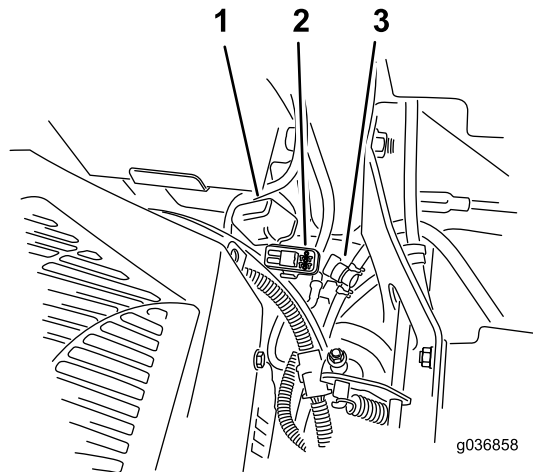

Figure 54
Note: For MyRide machines, ensure that the ground cable does not rub against the trailing arm or lower shock mount (Figure 54).
The fuses are located on the right console next to the seat (Figure 54).
2. Install a new fuse (Figure 54).